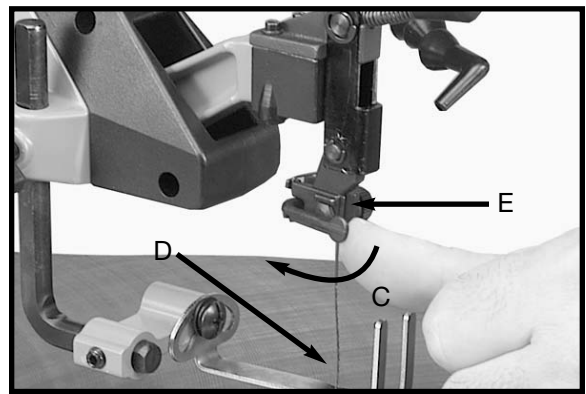

Fig. 11
3. Push upper blade chuck locking lever (C) Fig. 11, to the rear as shown. This will automatically release the blade (D) from the upper chuck (E).